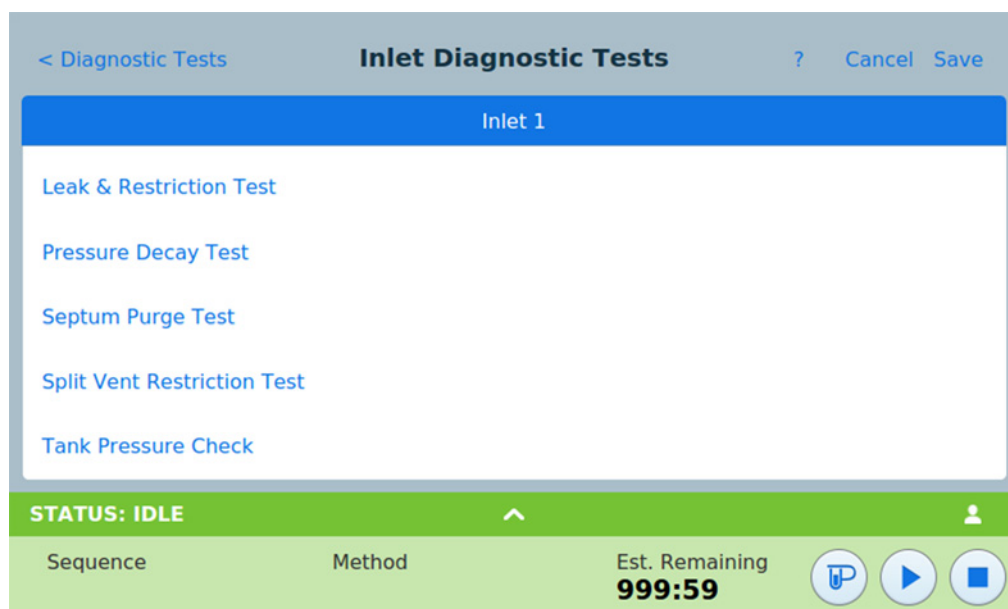

Figure 25 Inlet Diagnostic Tests page
- 3 Press **Inlets** or **Detectors**, as desired. The corresponding page will appear. For example, pressing **Inlets** brings up the Inlet Diagnostic Tests page. See Figure 25.